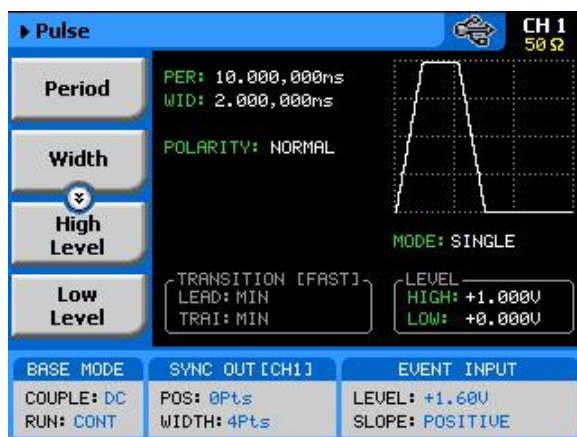

Figure 3-70: User-composed Pulse Patterns Menus
1. Push the Pulse button in the Function group keys. The pulse dialog box, as shown in *Figure 3-70* will be displayed.